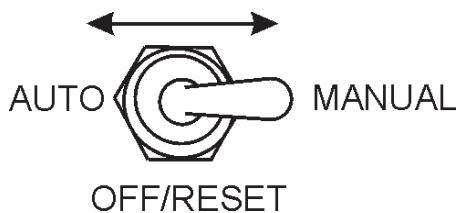

Figure 42. Auto-Off/Reset-Manual Switch
7. Place the Auto-Off/Reset-Manual switch in the "**MANUAL**" position to start the engine (Figure 42). Once the engine starts, let the engine run for 1-2 minutes. Listen for any abnormal noises.